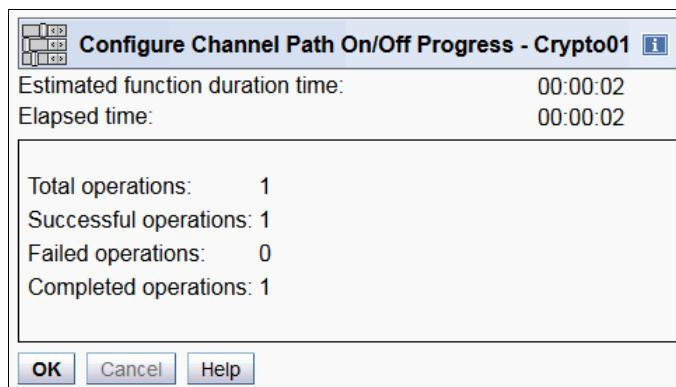

Figure 10-31 Config On/Off (Online to Standby) completed
- Confirm that your request is completed (Figure 10-31). Click **OK**.